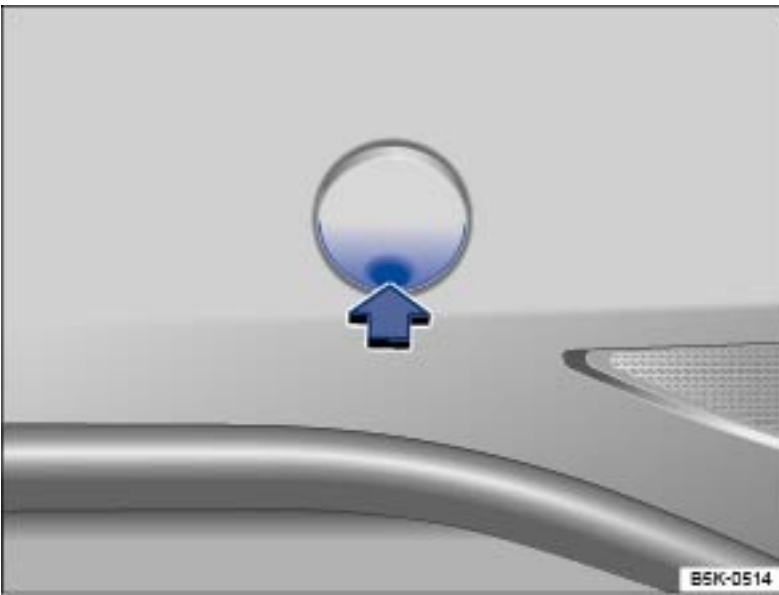

Fig. 228 In the right rear bumper: Removing the cover.
- ▶ Push on the cover at the bottom marking → Fig. 228 (arrow) so